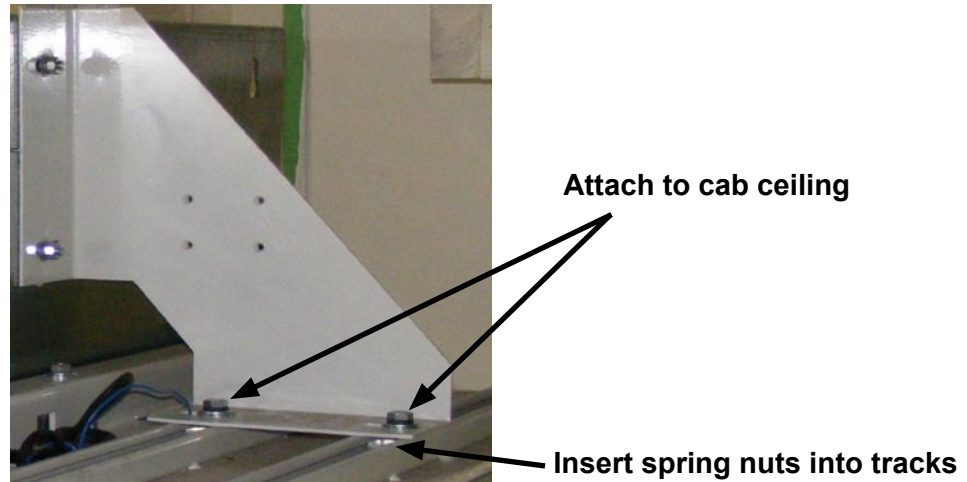

Figure 37 Attach Angle Mounting Brackets to Cab Ceiling
- 8) Attach the two angle mounting brackets to the cab ceiling and secure them using two 5/8" spring nuts per bracket (inserted into the tracks on the cab ceiling) and the appropriate 5/8" hardware. Figure 37 shows one of the angle mounting brackets.